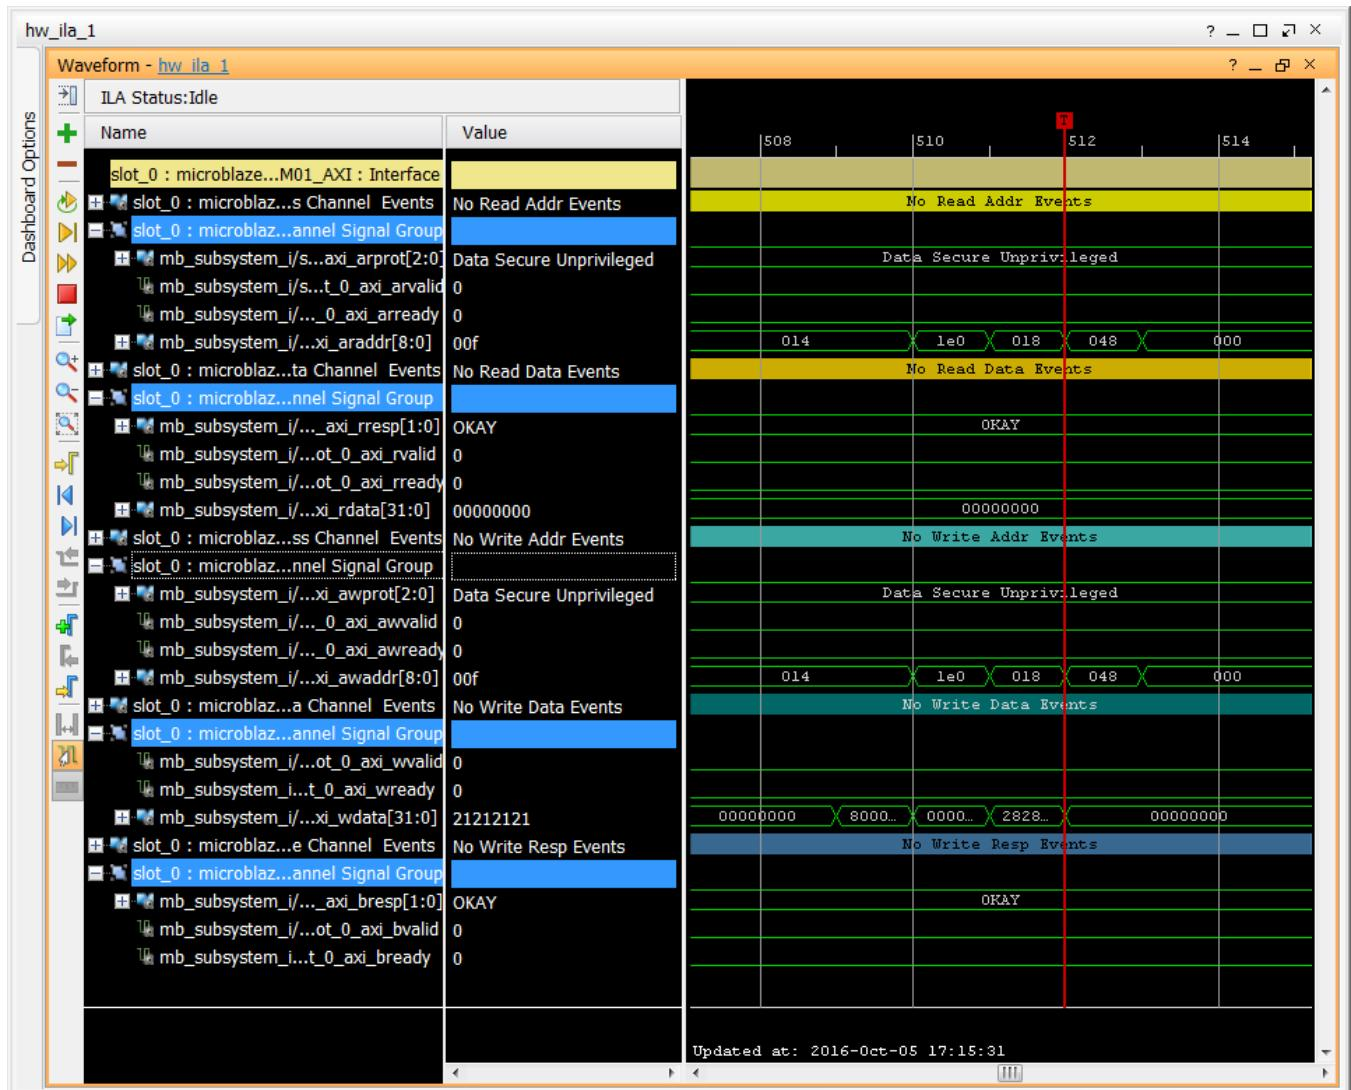

Figure 132: MicroBlaze to Logic Cross Trigger Waveform in hw_ila_1
3. In SDK, in the Debug window, click the **MicroBlaze #0** in the Debug window and click the **Resume** button . The code will execute until the breakpoint set on Line 50 in testperiph.c file is reached. As the breakpoint is reached, this triggers the ILA as seen in Figure 132.